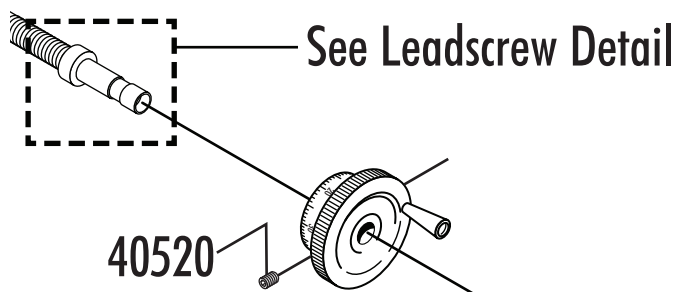

Figure 2
2. Tighten the set screw (P/N 40520) in the handwheel (See Figure 2 and Photo 29).